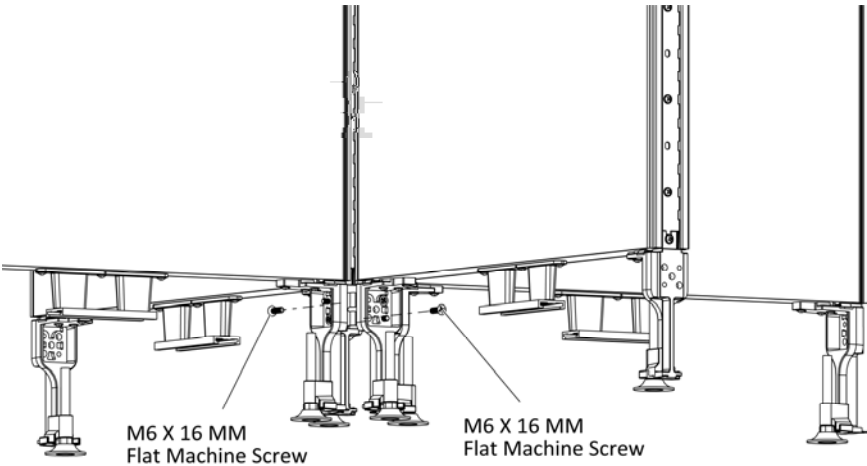

Figure 7
- 11.** Secure the base with two M6 X 16MM Flat Machine Screws, (Figure 7).